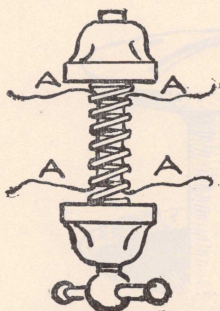
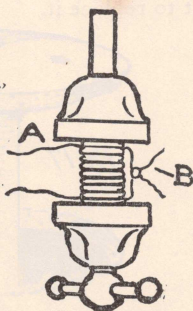

Fig. 15
Fig. 16
Cut two pieces of thin soft wire, each about 6 inches long. String these through the valve spring as shown in Fig. 15, (A-A). The ends of the wires should project through the first coil of the spring on either end and be opposite to each other.
Now place the spring in a vise, as shown in Fig. 15, and tighten up the vise, compressing the spring up hard. See Fig. 16.
Now draw the wires up tight, taking up all slack from the inside of the spring, Fig. 16, (A), and see that the wires are as nearly opposite to each other as possible, then twist the ends of both wires together as shown at B. You may now open the vise, and the spring will be held compressed.